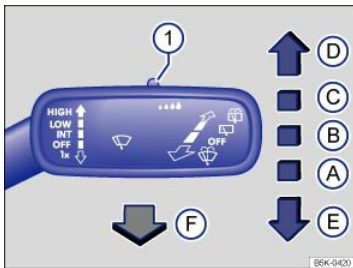

Fig. 83 Operating the front windshield wipers.
Move the lever to the desired position ⇒ Fig. 83 ⇒ ① :
- ① **OFF** Wiper switched off.
- ② **INT** Intermittent wiping for the front windshield. Rain sensor active (if equipped).
- ③ **LOW** Slow wiper speed.
- ④ **HIGH** Fast wiper speed.
- ⑤ **1x** One-tap wiping – brief wiping. Hold the lever down longer to wipe more often.
- ⑥ Pull the lever toward the steering wheel to activate the front windshield washers, then release.
- ⑦ Switch for adjusting the windshield wiper interval settings (vehicles without a rain sensor) or the sensitivity of the rain sensor (vehicles with a rain sensor).